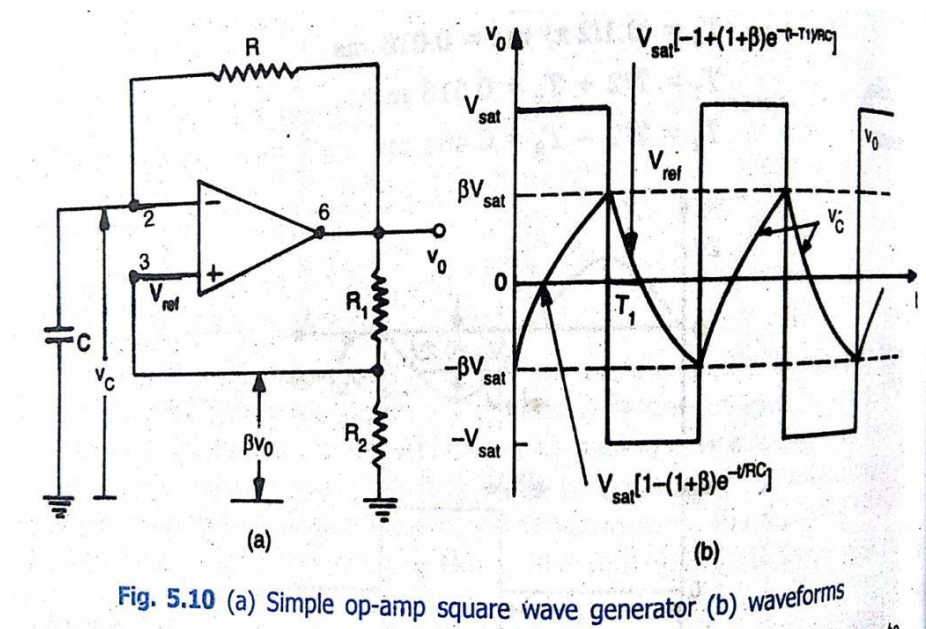

Fig. 5.10 (a) Simple op-amp square wave generator (b) waveforms
- In Figure 5.10(a), fraction $\beta = R_2/(R_1+R_2)$ of the output is fed back to the +ve input terminal. Thus the reference voltage V_{ref} is βV_o and may take values as $+\beta V_{sat}$ or $-\beta V_{sat}$.